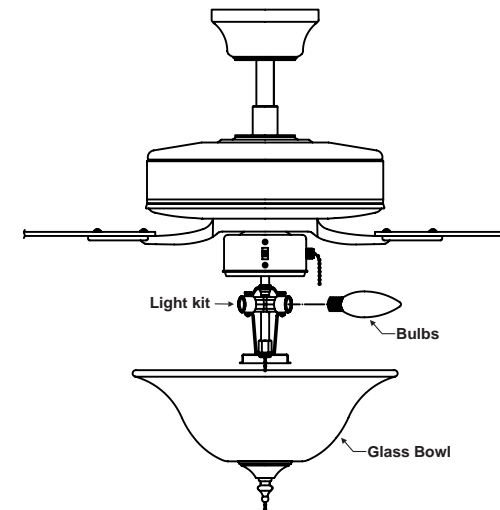

Figure 21
1. Install 60W candelabra bulbs (not included). (Fig. 21)